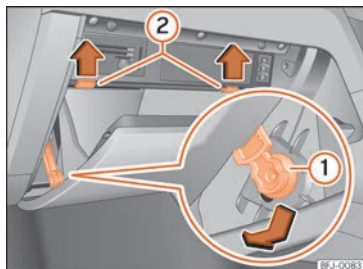

Fig. 229 Right-hand drive vehicles: fuse box cover under the passenger side dash panel.
- Move the locking element >>> Fig. 229 ① into the support hole facing downwards and remove it to one side.
- Press the end pivots >>> Fig. 229 ② upwards, in the direction of the arrows, and at the same time open the glove compartment even more.
- To mount the glove compartment, place it in the correct position. Insert the braking element into the hole of the base and move it upwards until you hear it click. Carefully press the glove compartment forwards, against the resistance of the end pivots >>> Fig. 229 ②..